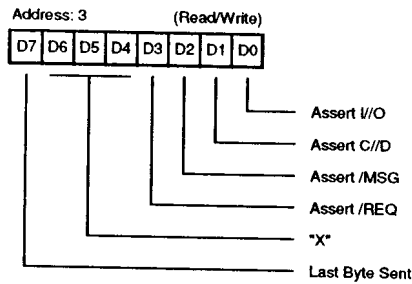

Figure 11. Target Command Register
Target Command Register. Address 3(Read/Write). When connected as a target device, the Target Command Register (Figure 11) allows the CPU to control the SCSI Bus Information Transfer phase and/or to assert /REQ by writing this register. The Targetmode bit (Mode Register, bit 6) must be True (1) for bus assertion to occur. The SCSI Bus phases are described in Table 2.